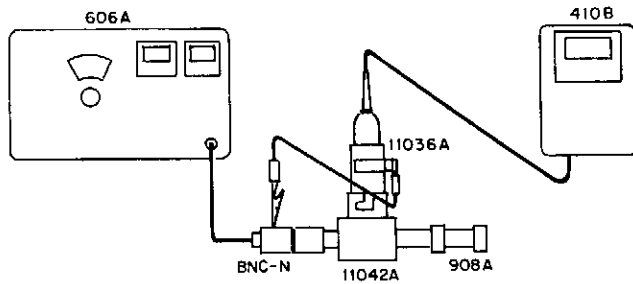

Figure 4-5. Output Level Frequency Response
a. Connect ac probe of HP Model 410B High Frequency VTVM to 11507A Output Termination as shown in figure 4-5. Solder tip of Model 410B ac probe to center conductor of UG-290/U connector. Clip ground lead